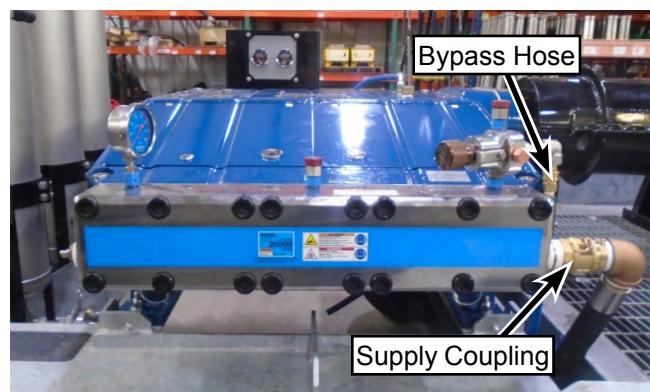

Figure 46: Connect Supply and Bypass Hoses
23. Connect the supply coupling (Figure 46) and the bypass hose to the manifold.